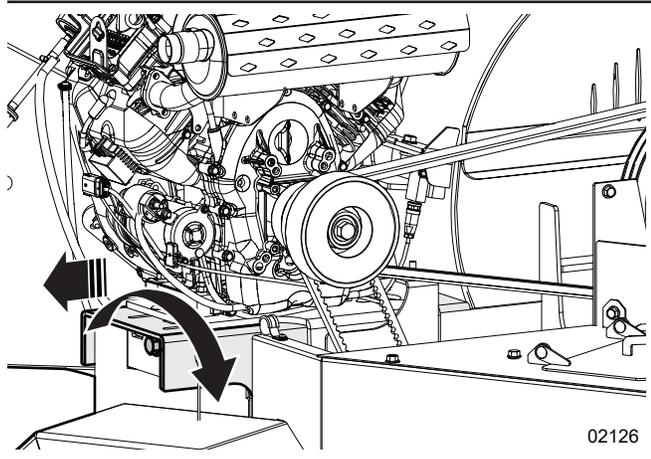

Figure 51 – Rotor drive-belt tensioning bolt - clockwise
- Clockwise to increase tension on the drive belt. See *Figure 51 on page 71*.